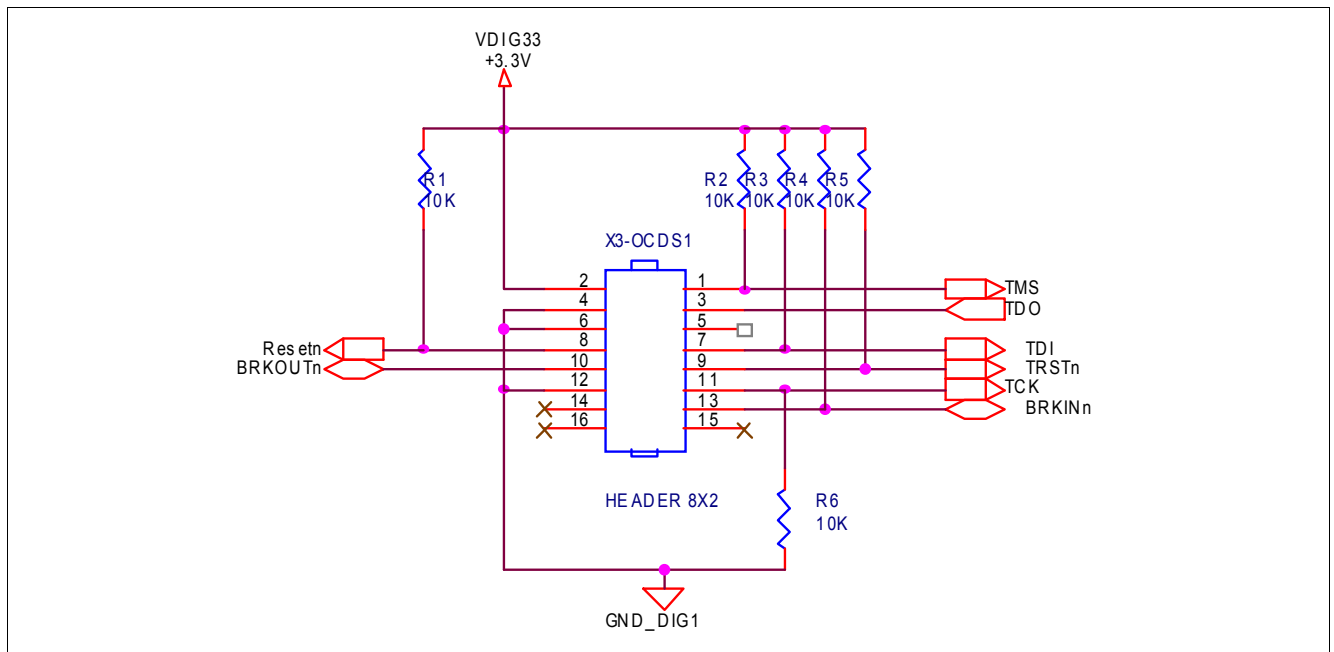

Figure 64 JTAG Debug Connector (same for Logic Board v1.2 and v1.3b)
- Possibility to connect debugging systems like Lauterbach to the JTAG connector K3-OCDS (Header 8X2) - please refer to Figure 64;